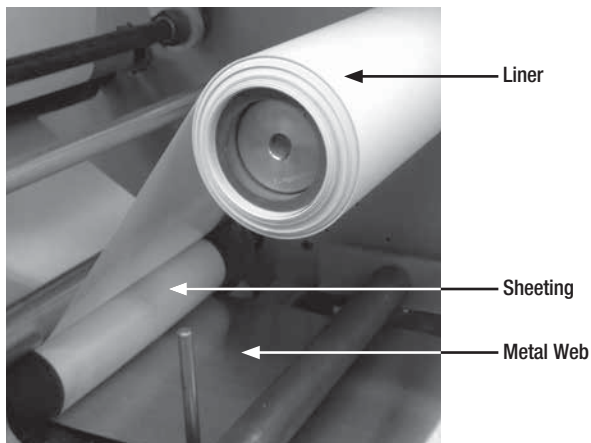

Figure 11
- l. Thread the sheeting through the laminating nip, aligning it with the metal web (Figure 11). Close the laminating nip by selecting CLOSE on the Nip switch. Jog the applicator until enough sheeting has been laminated to allow the removal of the sheeting tab. Tear off the sheeting tab from the laminated strip.